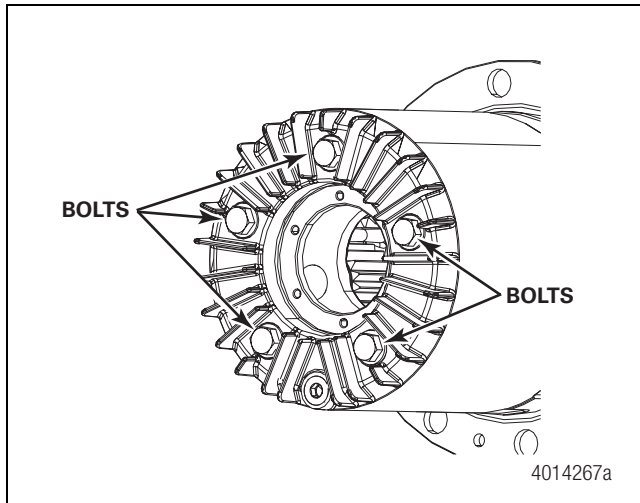

Figure 12.7
7. Install the five capscrews and washers through the case into the carrier. Tighten the capscrews to the torque specified in Section 20. Figure 12.7.